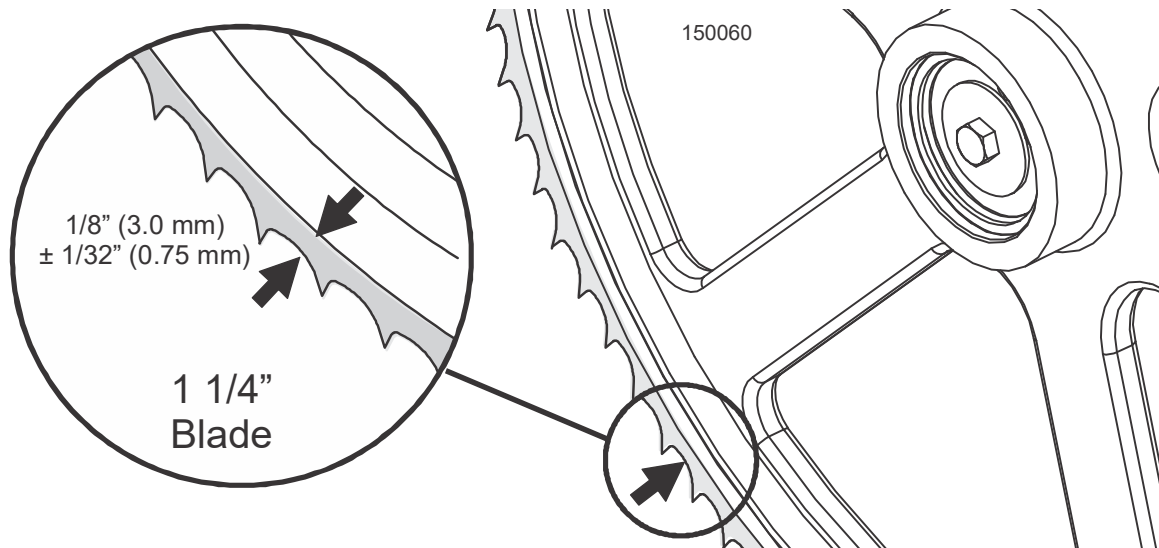

FIG. 4-6
- Position 1 1/4" wide blades so the gullet is 1/8" (3.0 mm) out from the edge of the blade wheel ( $\pm 1/32$  [.75 mm]). See FIG. 4-6.